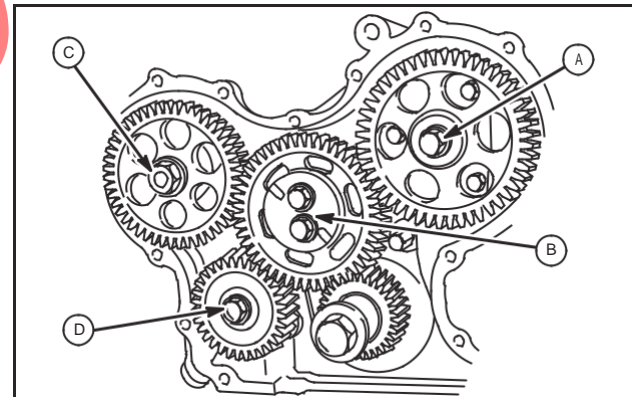

Fig. 19 – Torque Screws
6. Torque screws as shown, Fig. 19.